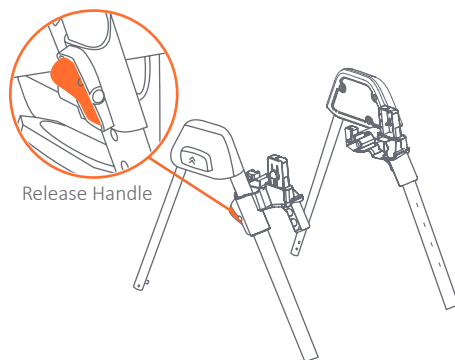

Fig. 2b
- Squeeze the Release Handles on both sides simultaneously and push the tube through the Height Adjusters until it locks in the highest position (Fig. 2b).